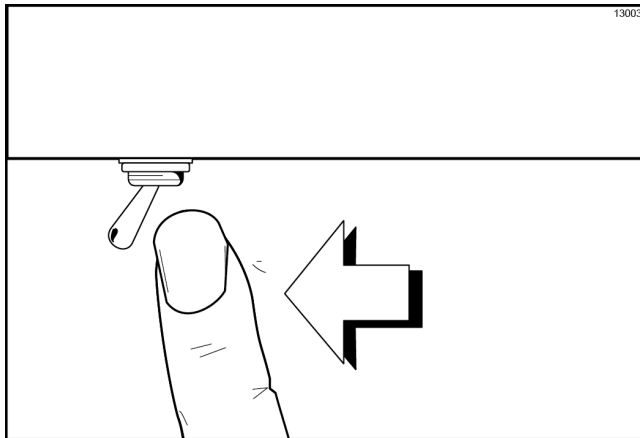

Figure-101
- Make sure the power switch is in the OFF position. (See Figure-101.)